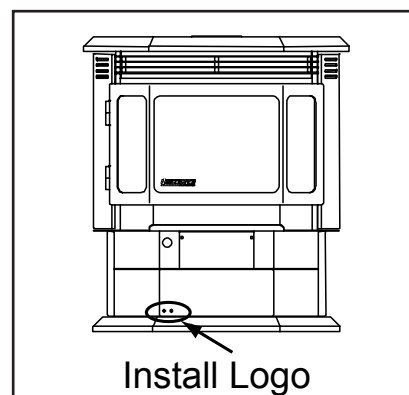

Figure 21.4
3. Install the logo on the lower left side of the center panel by pressing the 2 studs into the pre-drilled holes. See **Figure 21.4**.